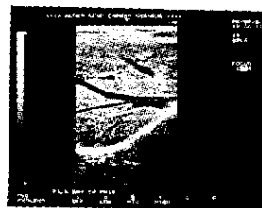

Fig. 6-4-25
- c. When the range is shifted upward using SHIFT from the LEVEL menu, the display becomes as shown in Fig. 6-4-25.